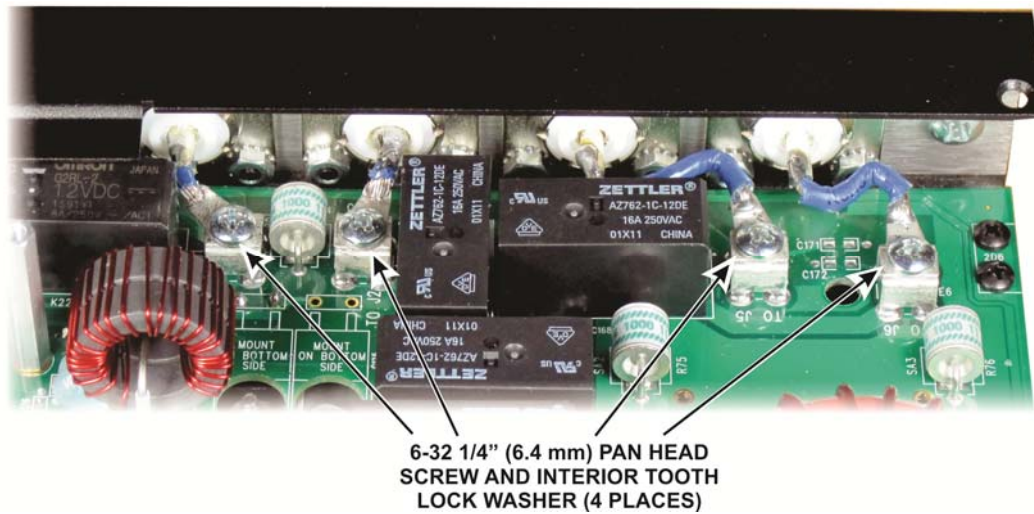

Figure 27. Securing SO-239 Wires to the PC Board Screw Posts.
- Attach the wires leading to each of the SO-239 connectors to the screw posts on the pc board as shown in Figure 27.
- The four screws securing the SO-239 connector leads to the standoffs on the pc board (Figure 27, page 34).